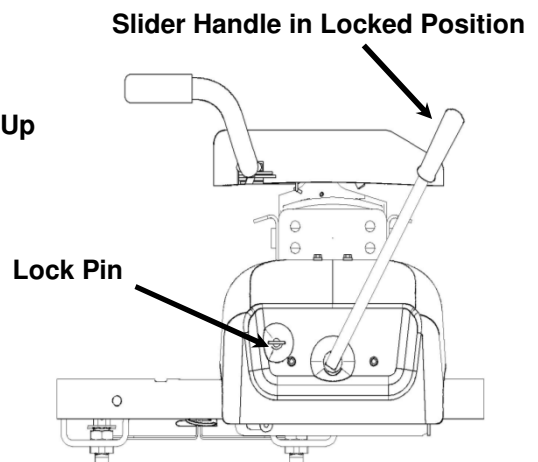

Figure 27c
7. Return to truck. Release emergency brake. Manually engage trailer brake and pull truck forward until FIFTH WHEEL Hitch stops and engages in the maneuvering position (see Figure 27c).
12. Examine slider handle position label. Handle should now be over the green range on the right side of the label (see Figure 27c). If the slider handle is over the red range on the label, then the hitch is not properly locked in the maneuvering position. **DO NOT TOW!** Repeat steps 1- 11 above.